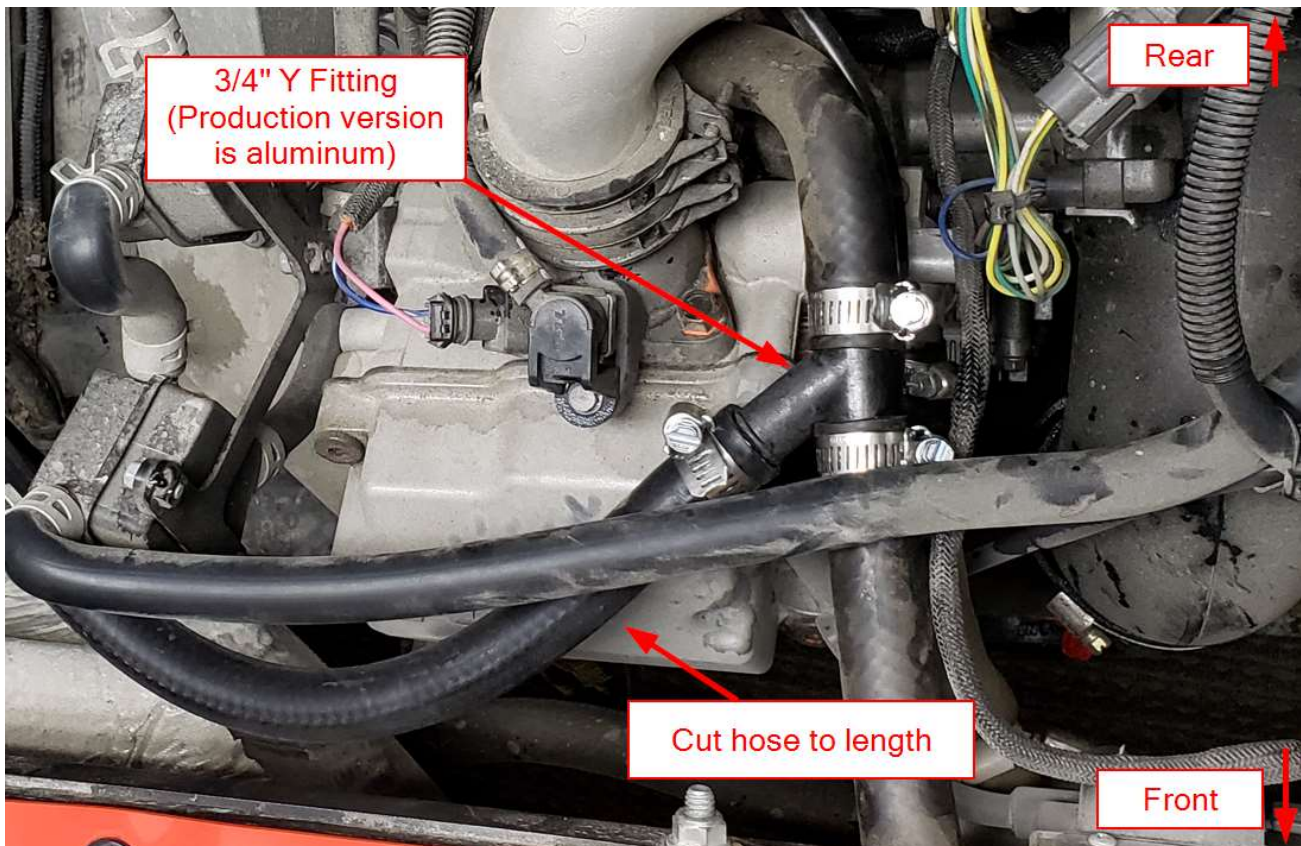

Figure 20
- j. If the Auxiliary Water Pump Kit was not purchased, route the 9 foot piece of 5/8" Coolant Hose to the Brass Fitting, cut it to length and secure the Hose using a #10 Hose Clamp as shown in Figure 20.